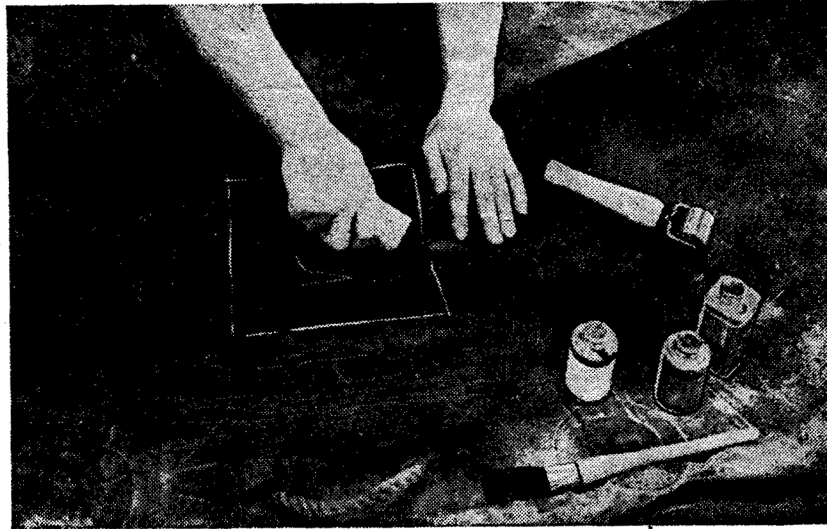

Figure 8. Buffing surface to which patch is to be applied.
3. Using coarse sandpaper, wire brush, abrasive stick or file thoroughly buff one side of the patch and a 1" border around the other side also buff the area around the hole in the boat. This area should be 3" larger all around than the hole to be repaired. Care must be taken not to injure the fabric, it is only necessary to thoroughly roughen the surface of the coating. (Fig. 8.)